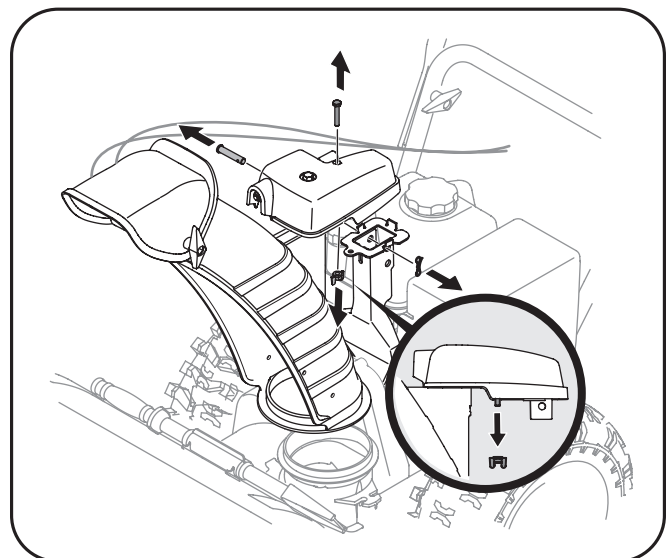

Figure 3-3
- Remove wing nut and hex screw from chute control assembly and clevis pin and cotter pin from chute support bracket. See Figure 3-3. Position the chute assembly (forward-facing) over the chute base.